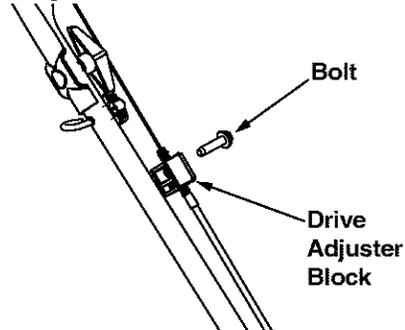

Figure 5
- Secure drive adjuster block with bolt previously removed. See Figure 5.